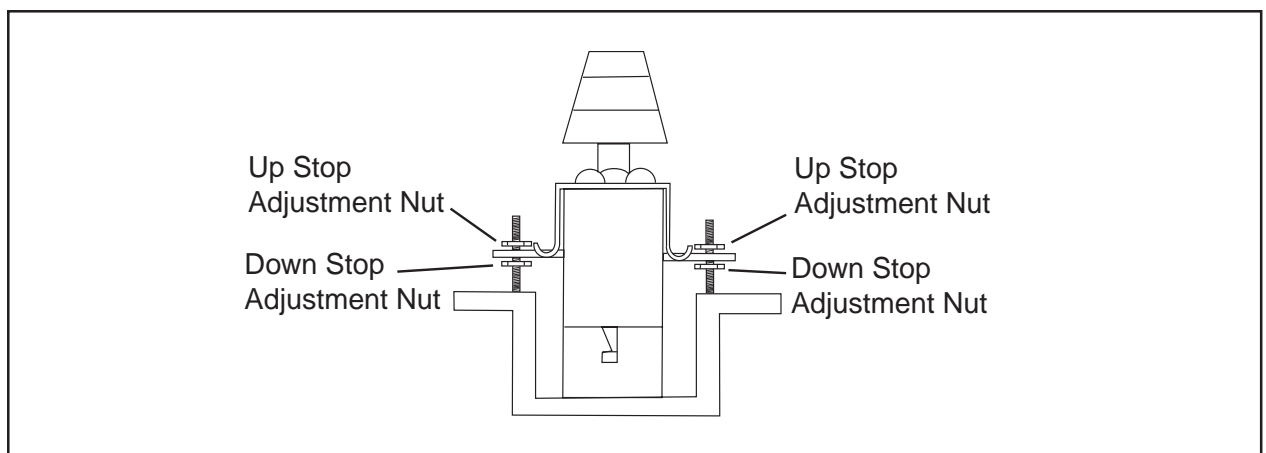

Figure 4-3. Load Cell End View - Adjustments
3. If the above conditions **are not met**, adjust the nuts and locktite when complete. See Figure 4-3.
2. If the clearance is excessive, adjust the nuts using the data in Tables 4-7 or 4-8. See Figure 4-3. The screw with the nuts should be held fast while adjusting the nuts. Locktite the nuts when completed. Do not pull up on the Load Cell.